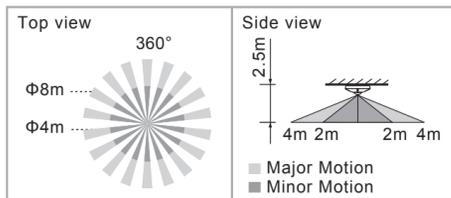

FIG.2
- 3.1.1 752DALIRC / 752DALIS can be installed at the height of 2-5m and the height of 2.5m is recommended to gain the optimal detection pattern. The detection range can reach up to the diameter of 8m and 360° detection angle (See FIG.2).